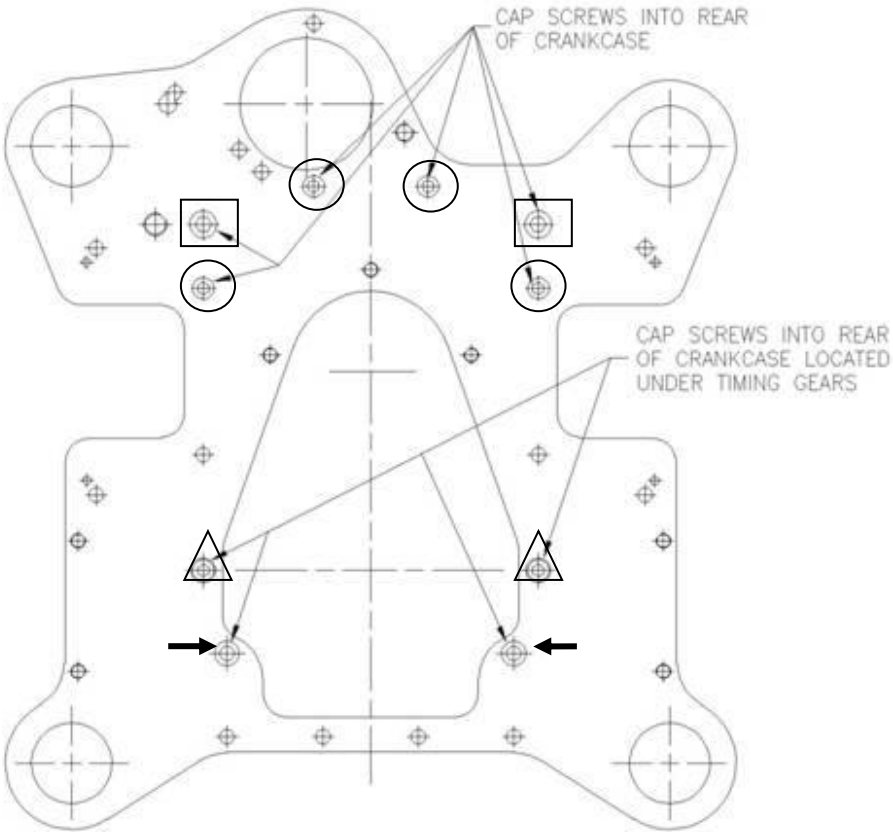

Figure 176 – Engine Mount Plate Screw Locations
- Tighten the screws holding the plate to the crankcases. Note that different sized screws are used on the plate - Figure 176 refers.